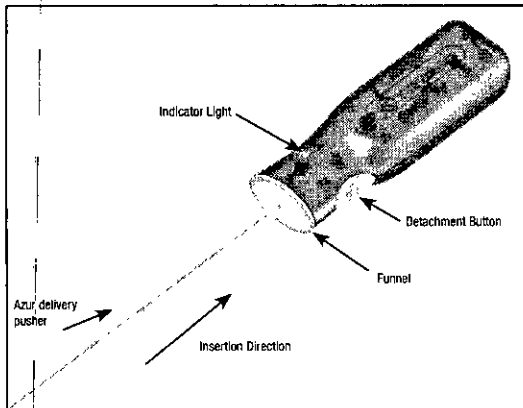

Figure 2 - Azur Detachment Controller
14. Prior to using the device, remove the proximal end of the delivery pusher from the packaging hoop. Use care to avoid contaminating this end of the delivery pusher with foreign substances such as blood or contrast. Firmly insert the proximal end of the delivery pusher into the funnel section of the Azur Detachment Controller. See Figure 2. Do not push the detachment button at this time.
34. Connect the proximal end of the delivery pusher to the Azur Detachment Controller by firmly inserting the proximal end of the delivery pusher into the funnel section of the Azur Detachment Controller. See Figure 2.